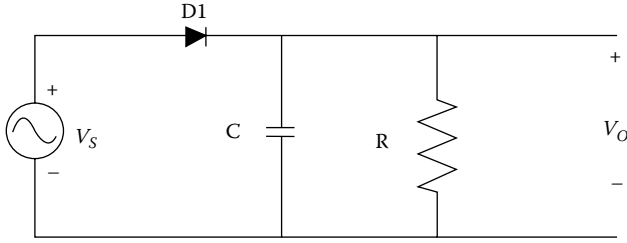

FIGURE 6.14
audio signal in amplitude modulated (AM) waves. A simple peak detector circuit is shown in Figure 6.14.